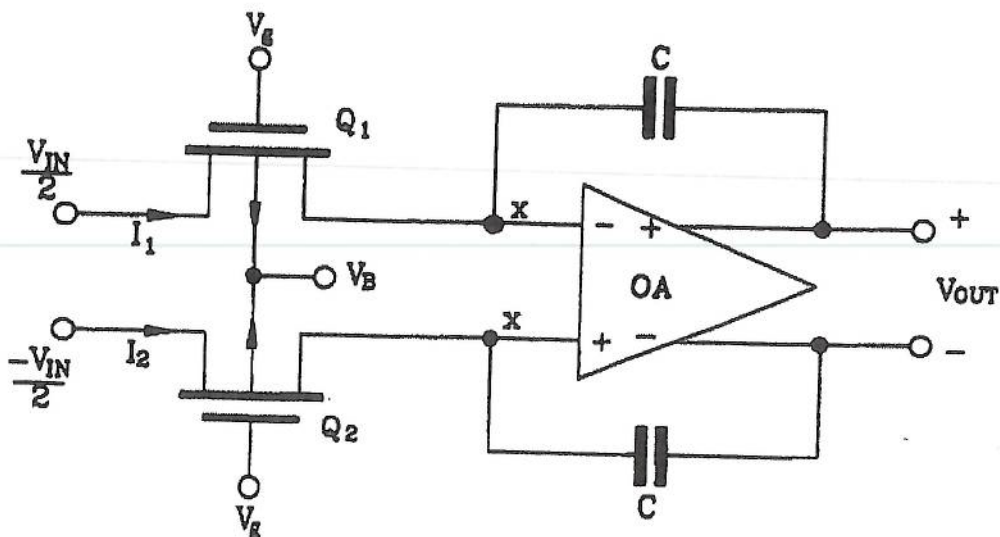

Figure 4.
4. Figure 4 shows a differential opamp which is based upon a folded cascode design
(c). (i) Derive the equation for the linear differential resistor of the circuit shown in Figure 4.